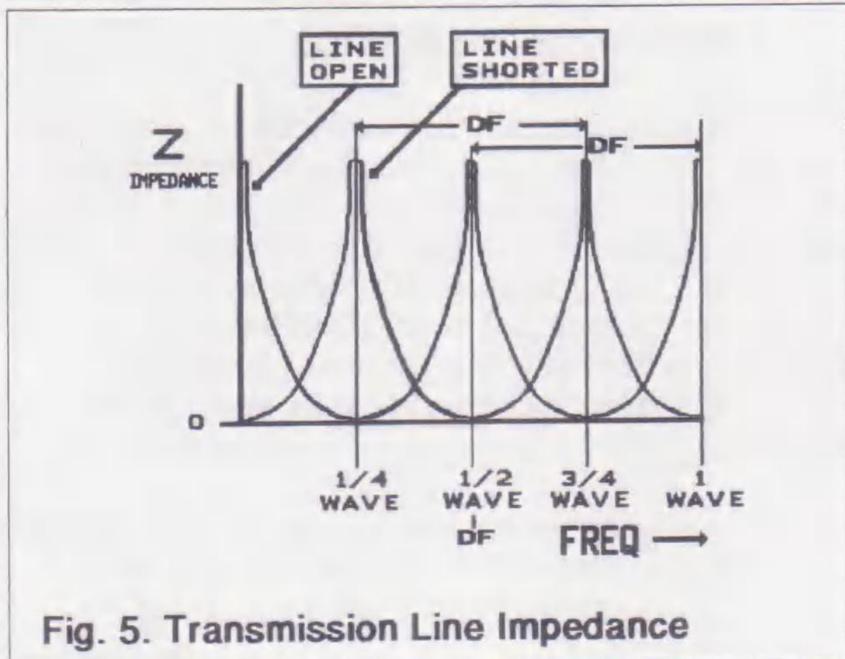

Fig. 5. Transmission Line Impedance
Fig. 5 shows how Z varies with frequency when the line is open or shorted and measured as in Fig. 3.
If you don't know your cable impedance, connect a 50 ohm resistor to the far end of the cable and measure Z at the cable input as you change frequency. If Z changes cyclically about 50 ohms as you change frequency (every DF..see Fig. 5,) then the cable is not exactly 50 ohms. Find a terminating resistor which produces the least change. The value of this resistor is the cable impedance. Do this on the **lowest band** if possible so that the resistor's inductance has minimum effect.
If you want a 1/2 wave cable, use equation (3), and cut the cable slightly longer. Now, **short** the far end of the cable and find the first frequency of minimum impedance (see Fig. 5.). This is frequency where the cable is 1/2 wavelength long. The frequency should be low at first. Cut off some cable until the minimum Z occurs at the desired frequency.
A 1/4 wavelength cable should be about half as long. In this case, leave the far end of the cable **open**, and look for the frequency of minimum Z (see Fig. 5.)
So, to find VF, connect the RF5 as in Fig. 3. Change the frequency and find the separation between nulls in Z (DF). (See Fig 5.) Also measure the line length and put these values in equation 9 to determine VF. Average several values of DF for best accuracy, if possible, and use a line at least 10 feet long if possible so DF is not too large. Accuracy to within 1% can be obtained using this method.
at the far end if possible (Fig. 3) to avoid feeding any spurious signals into the cable which could affect RF5 readings. Change frequency and find the separation between nulls in Z (DF). (See Fig. 5.) Determine the velocity factor of the cable from manufacturers specifications, or use a length of good cable of the same type and measure VF as in the paragraph above. Put these values in equation (10) to determine how far the short or open is from the RF5 measurement point.
Surprisingly, the same result is obtained with a short or open when DF is used. Examination of Fig. 5 shows that by knowing the exact frequencies, as well as DF, one could determine whether it is a short or open. But this is not usually required, and is not discussed here.